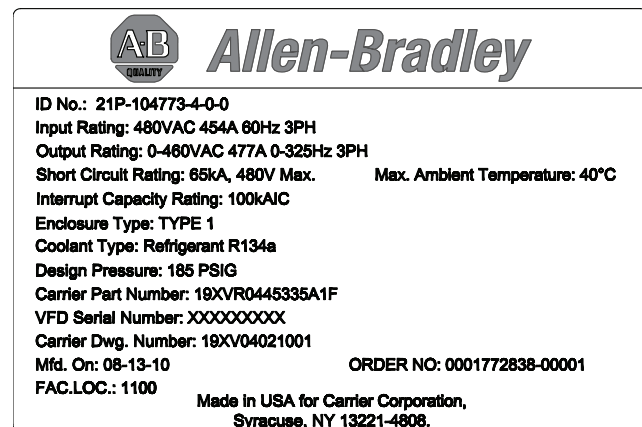

Fig. 1 — Allen Bradley Data Nameplate
Before calling, have the following information available from the Allen-Bradley data nameplate located inside the enclosure on the right wall. See Fig. 1.
1. From the Allen-Bradley nameplate (Fig. 1) located inside the VFD enclosure: